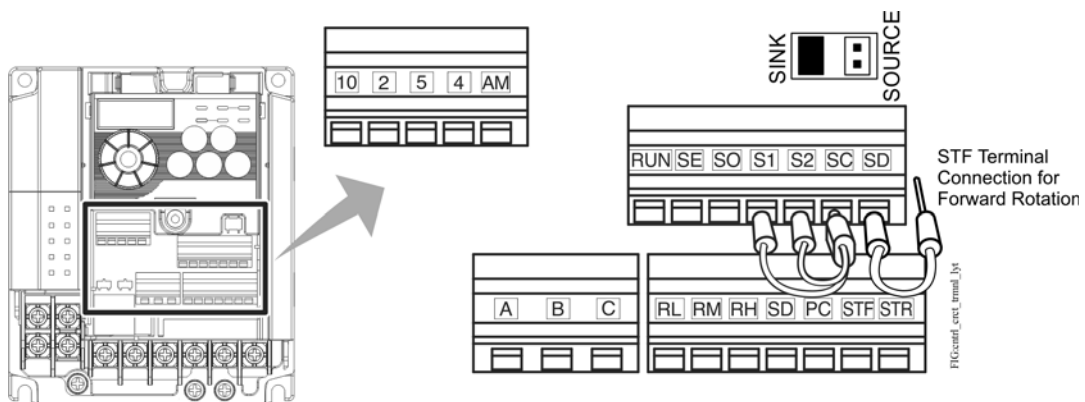

Figure 13: Locating the Low-Voltage Wiring Terminals
- Locate the low-voltage wiring terminals (Figure 13).